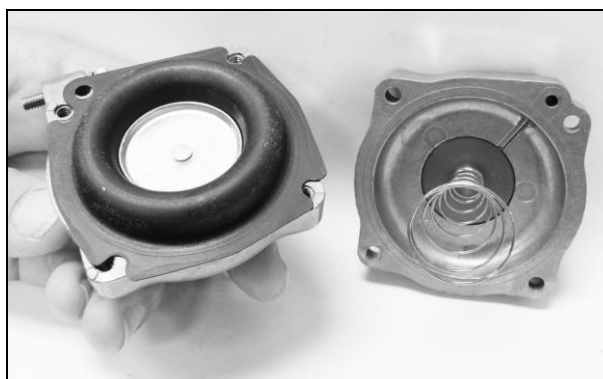

Figure 8
13. Remove the 4 hex head screws that hold the vacuum pod top to the base to be able to replace the diaphragm (Fig. 8). Assembly is the reverse of the removal.